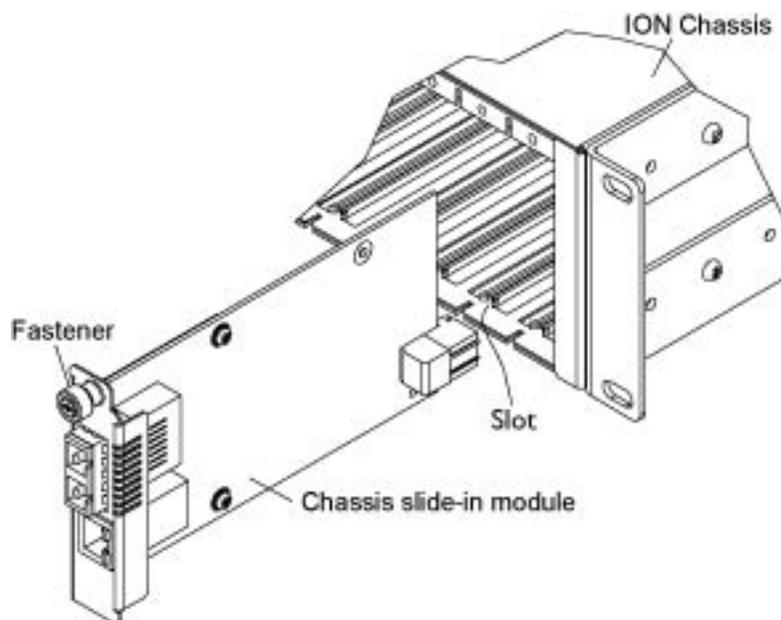

Figure 16: Chassis Installation
5. Push in and rotate clockwise the panel fastener screw to secure the card to the chassis (see Figure 16: Chassis Installation on the previous page).